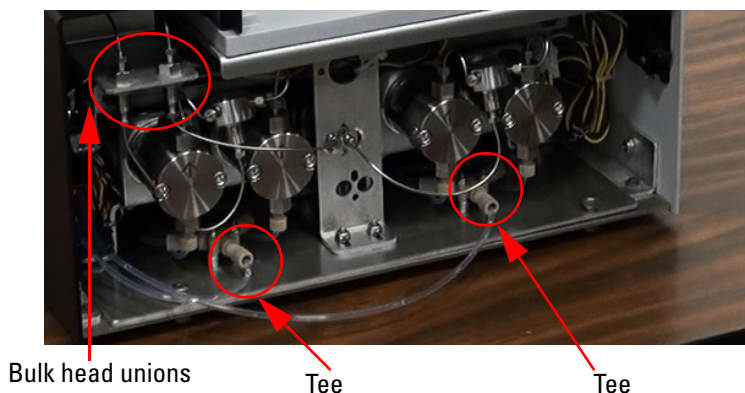

Figure 2-7 Line connections on the pumps
2. The right two pump heads form the B solvent pump and the outlets are connected to a tee. The outlet tee on this side is connected to the pressure transducer in the middle of the assembly. The remaining connector on the pressure transducer must be connected to the right bulkhead union. Tighten this fitting with the $\frac{1}{4}$ " open end wrench (Figure 2-7).